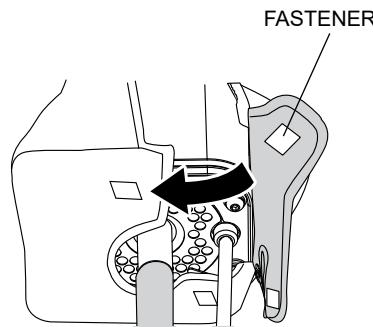

Figure 28. Loop Fastener
4. Please ensure to close both the zipper and the loop fastener securely. (Figure 28).